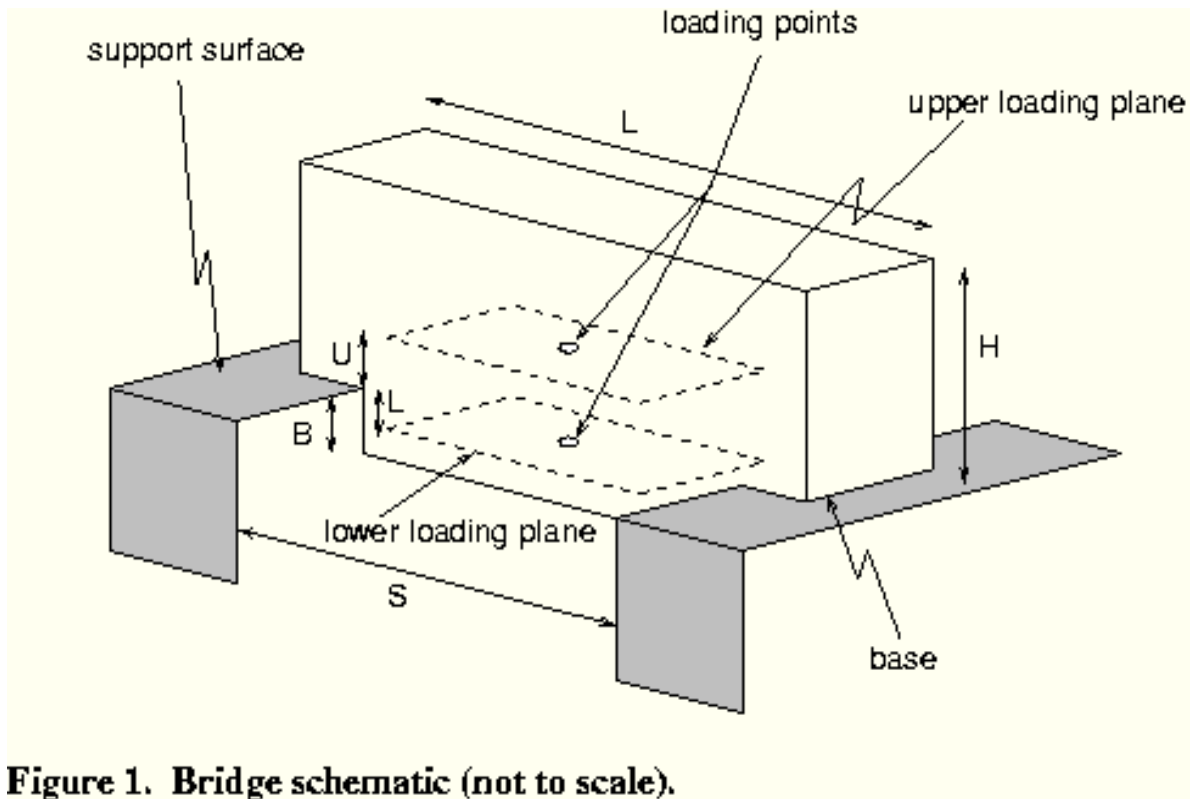

Figure 1. Bridge schematic (not to scale).
- b. The bridge (see Figure 1) must span a gap (**S**) of 300 mm, be no longer (**L**) than 400 mm and be no taller (**H**) than 70 mm above the support surface. The bridge structure may project a maximum (**B**) of 30 mm below the support surfaces (see Figure 1).